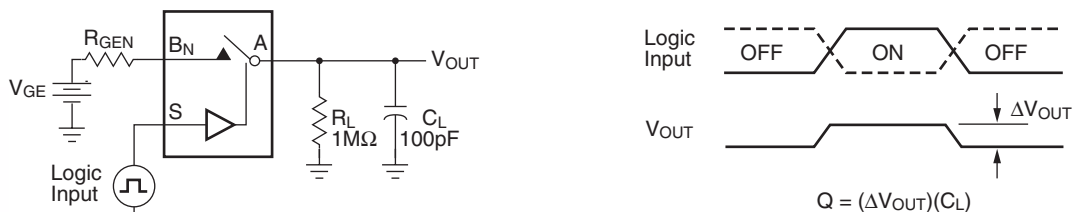

Figure 15. Charge Injection Test
| Q                                      | Charge Injection (9)                              | C L = 0.1nF, V GEN = 0V,                                                        | 5.0                    |                        | 7.0   |      |                                 |      | pC    | Figure 15              |